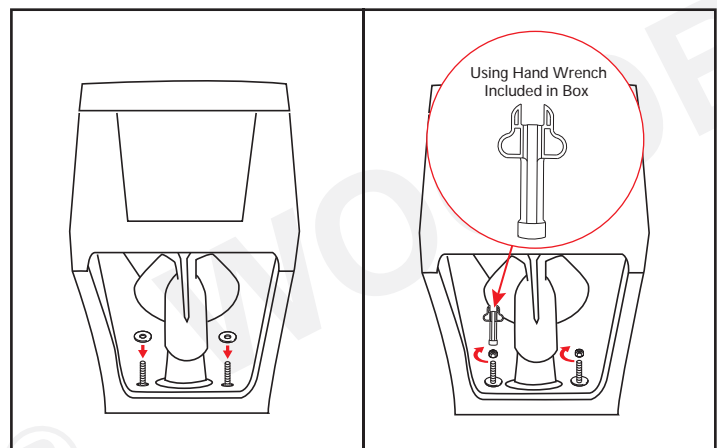

Figure 7
Step 2. Once the toilet is set and leveled install washers and nuts over the closet bolts. Tighten nuts. Do not overtighten the nuts. It may and will cause damage to the toilet's ceramic base. **Please keep in mind that because this is a skirted trap-way toilet, it may require a little more time, patience and accessibility to complete install.** See Figure 7